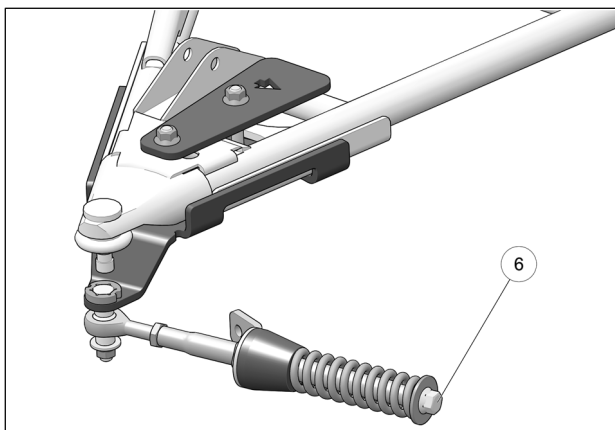

Fig. 15
9. Make sure spring mounting bolt (6) is torqued to specification: 75 N•m [55 lb•ft]. Fig. 15